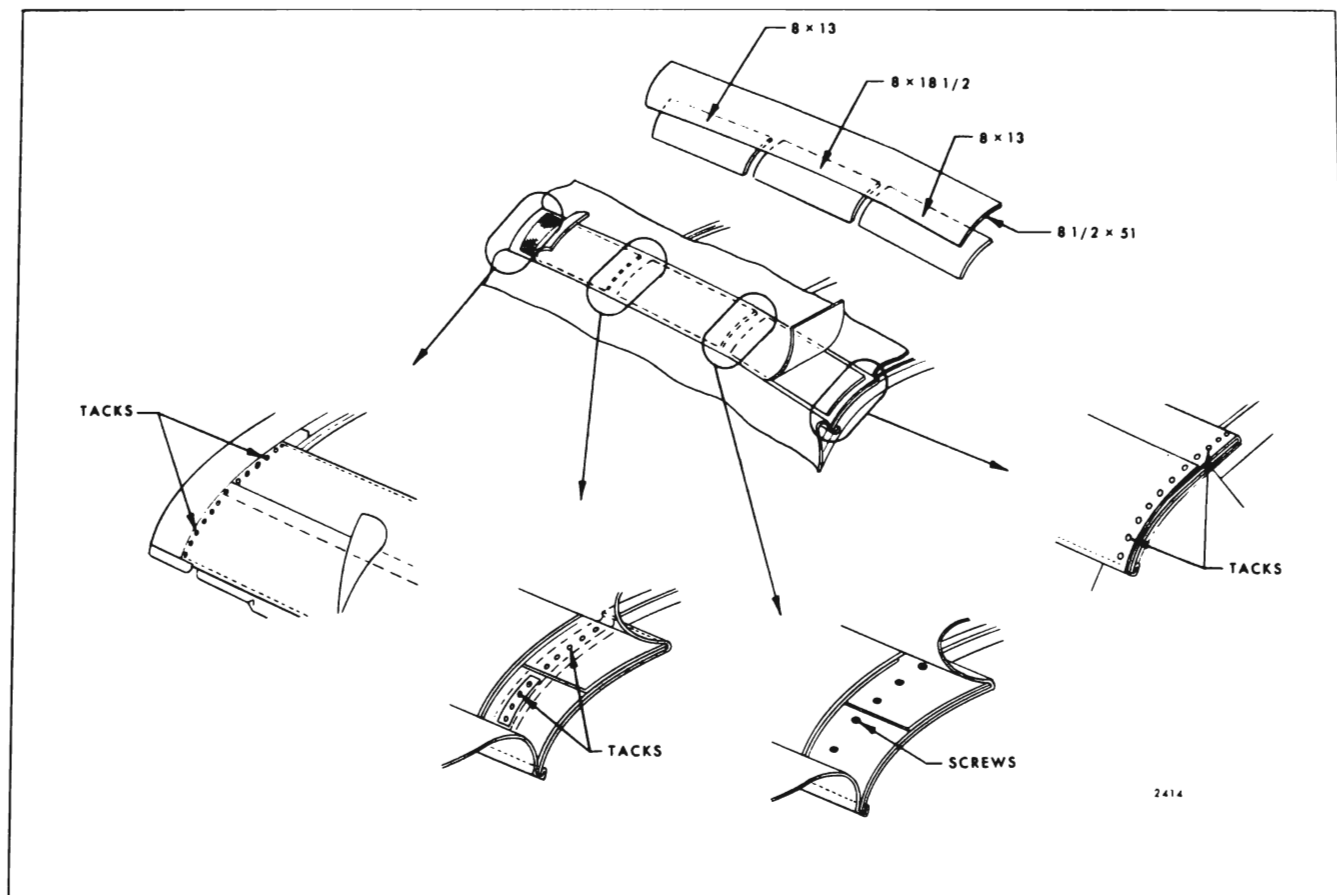
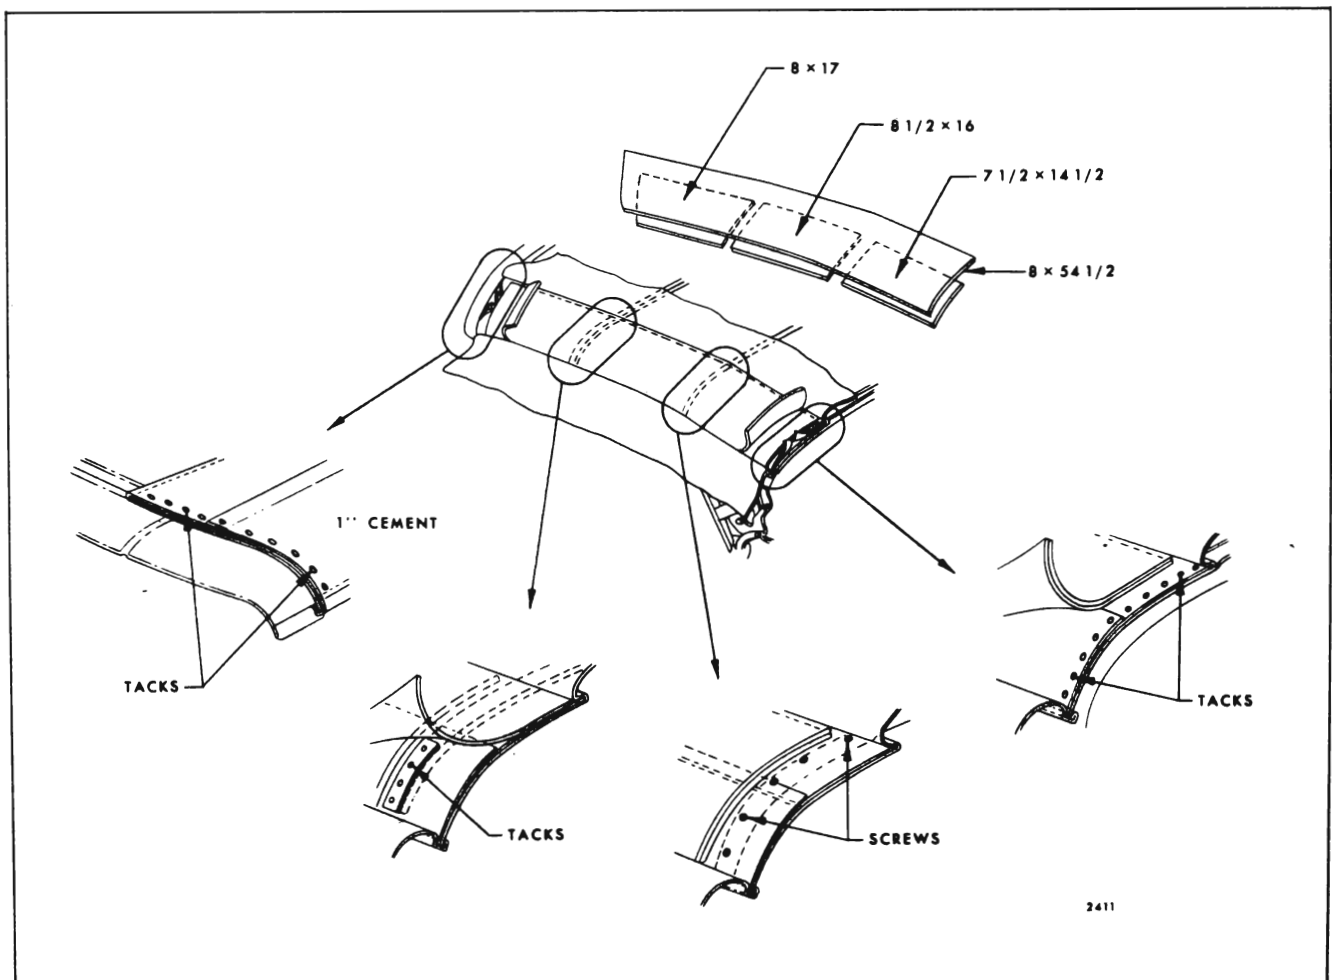
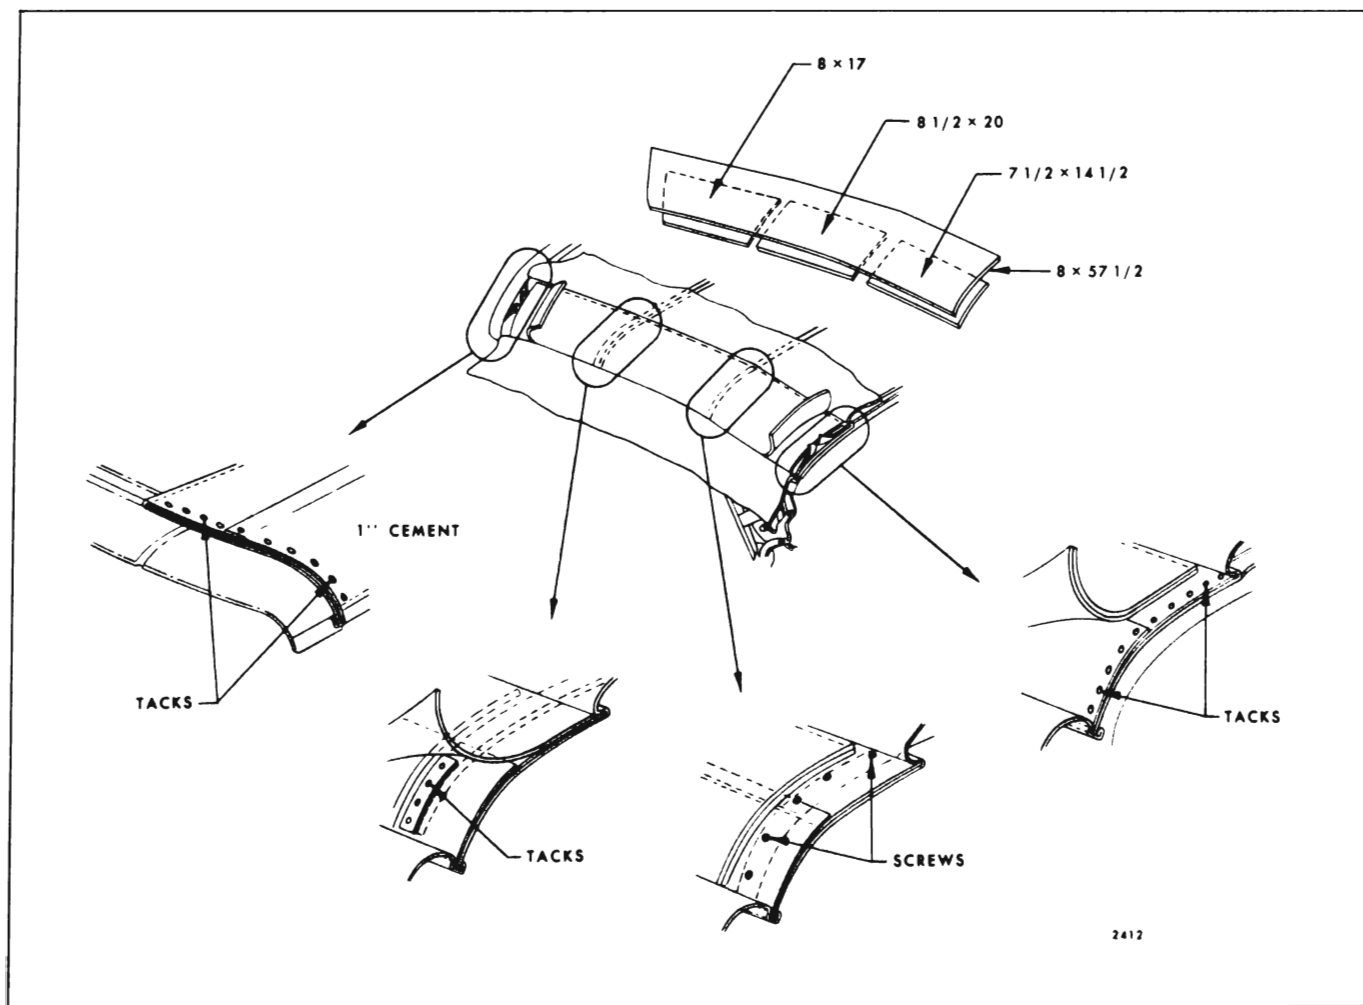
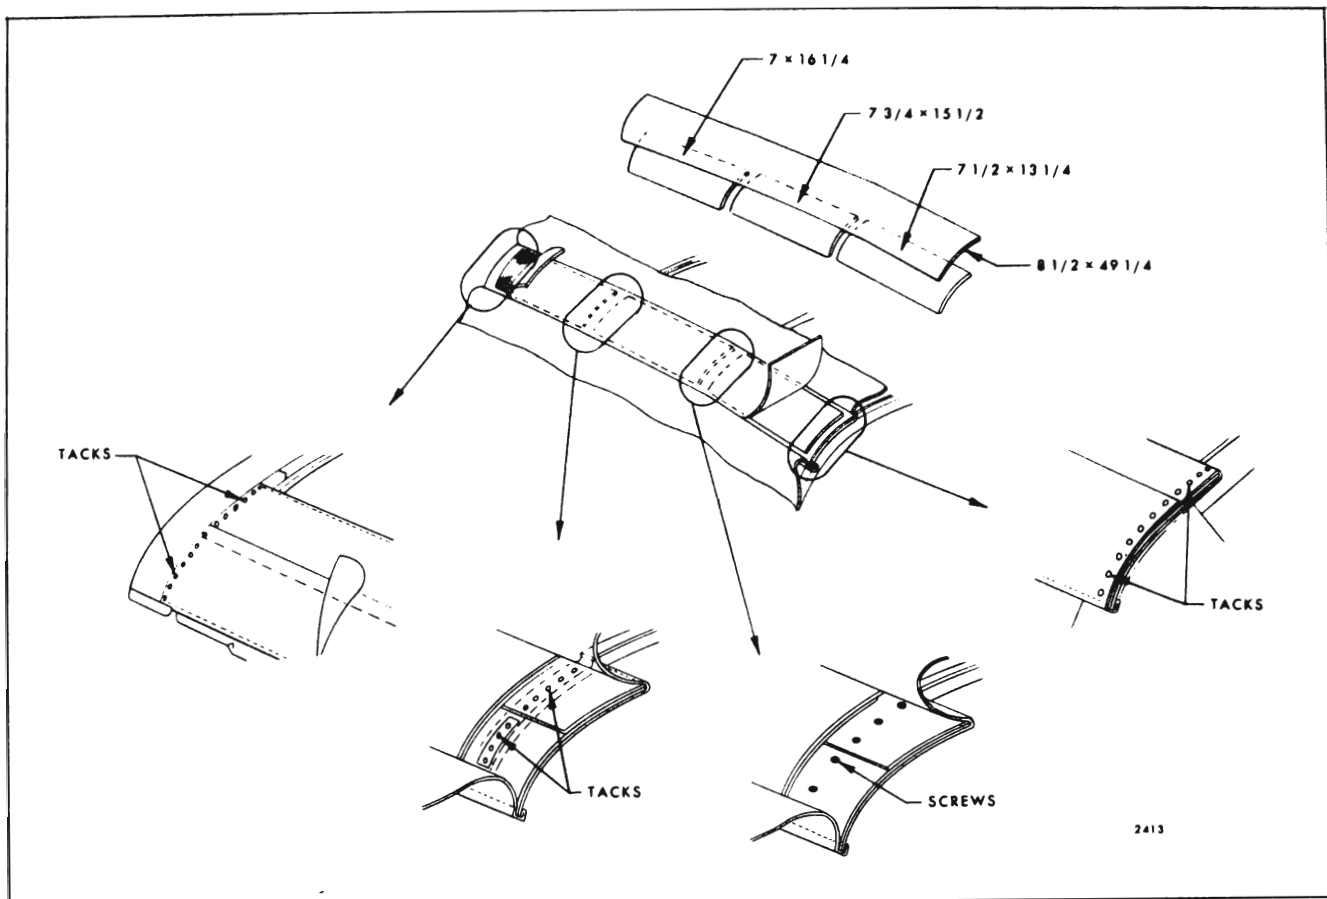

Fig. 13-13—"A" Body Side Stay Pad Installation
Fig. 13-14—"B" Body Side Stay Pad Installation
Fig. 13-15—"C" Body Side Stay Pad Installation
Fig. 13-16—"F" Body Side Stay Pad Installation
2. Tack side stay pads in conventional manner to rear roof bow and stay tack pads to front roof rail. Make sure inboard edge of pad is properly aligned within depressions in bow and rail. Stay tack pad to front bow. Install pad to center bow with screws. Make sure inboard edge of pad is properly aligned within depression in bow. Install stay pad wadding in conventional manner using an approved trim cement. (Fig. 13-13 for "A" Body, Fig. 13-14 for "B" Body, Fig. 13-15 for "C" Body and Fig. 13-16 for "F" Body.)
3. Trim salvage end of side stay pads just forward of rear rolled edge of rear roof bow (Fig. 13-13 for "A" Body, Fig. 13-14 for "B"
Body, Fig. 13-15 for "C" Body and Fig. 13-16 for "F" Body).